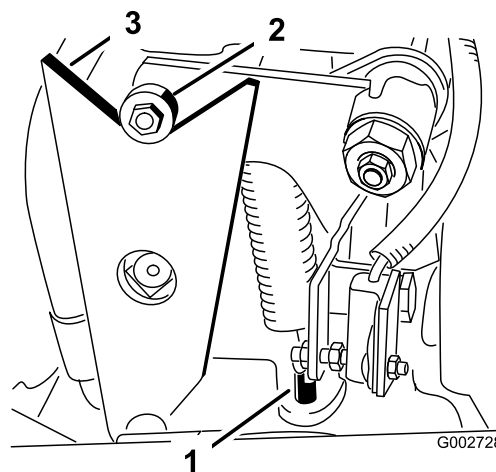

Figure 41
- If the wheels rotate in the proper direction, stop the engine and adjust the spring adjusting pin locknut (Figure 41). Adjust the traction neutral position; refer to Adjusting the Traction Drive for Neutral.